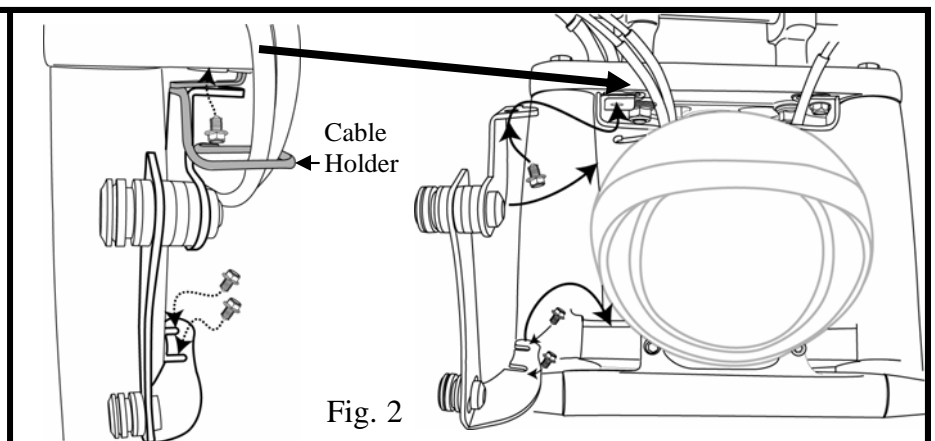

Fig. 2
3. On the throttle side, locate and loosen, almost to the point of removal, the two 8mm hex head bolts on top of the lower triple tree that secures the chrome fork cover. Locate the cable holder mounted under the upper triple tree. (See Fig. 2) Using a 12mm wrench, remove the cable holder bolt but hold the cable holder in place while slipping the lower mounting bracket slots onto the 8mm Hex Head Bolts. Slip the upper mounting bracket on to the cable holder so that the cable holder is between the upper mounting bracket and the upper triple tree, make sure that the cable holder's locator tab is inserted in the locator hole. and loosely tighten, tighten this bolt after the windshield is in place. (See Fig. 2)
4. Push the lower bracket all the way towards the chrome fork covers and loosely tighten the two lower bolts. Tighten these bolts after the windshield is in place (See Fig. 2)